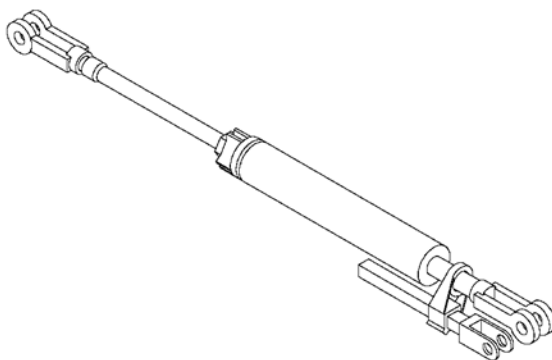

Figure 29: KRD2A-500AR Slack Adjuster
5.10 KRD2A-500AR SLACK ADJUSTER, Fig. 29, 30 and 31